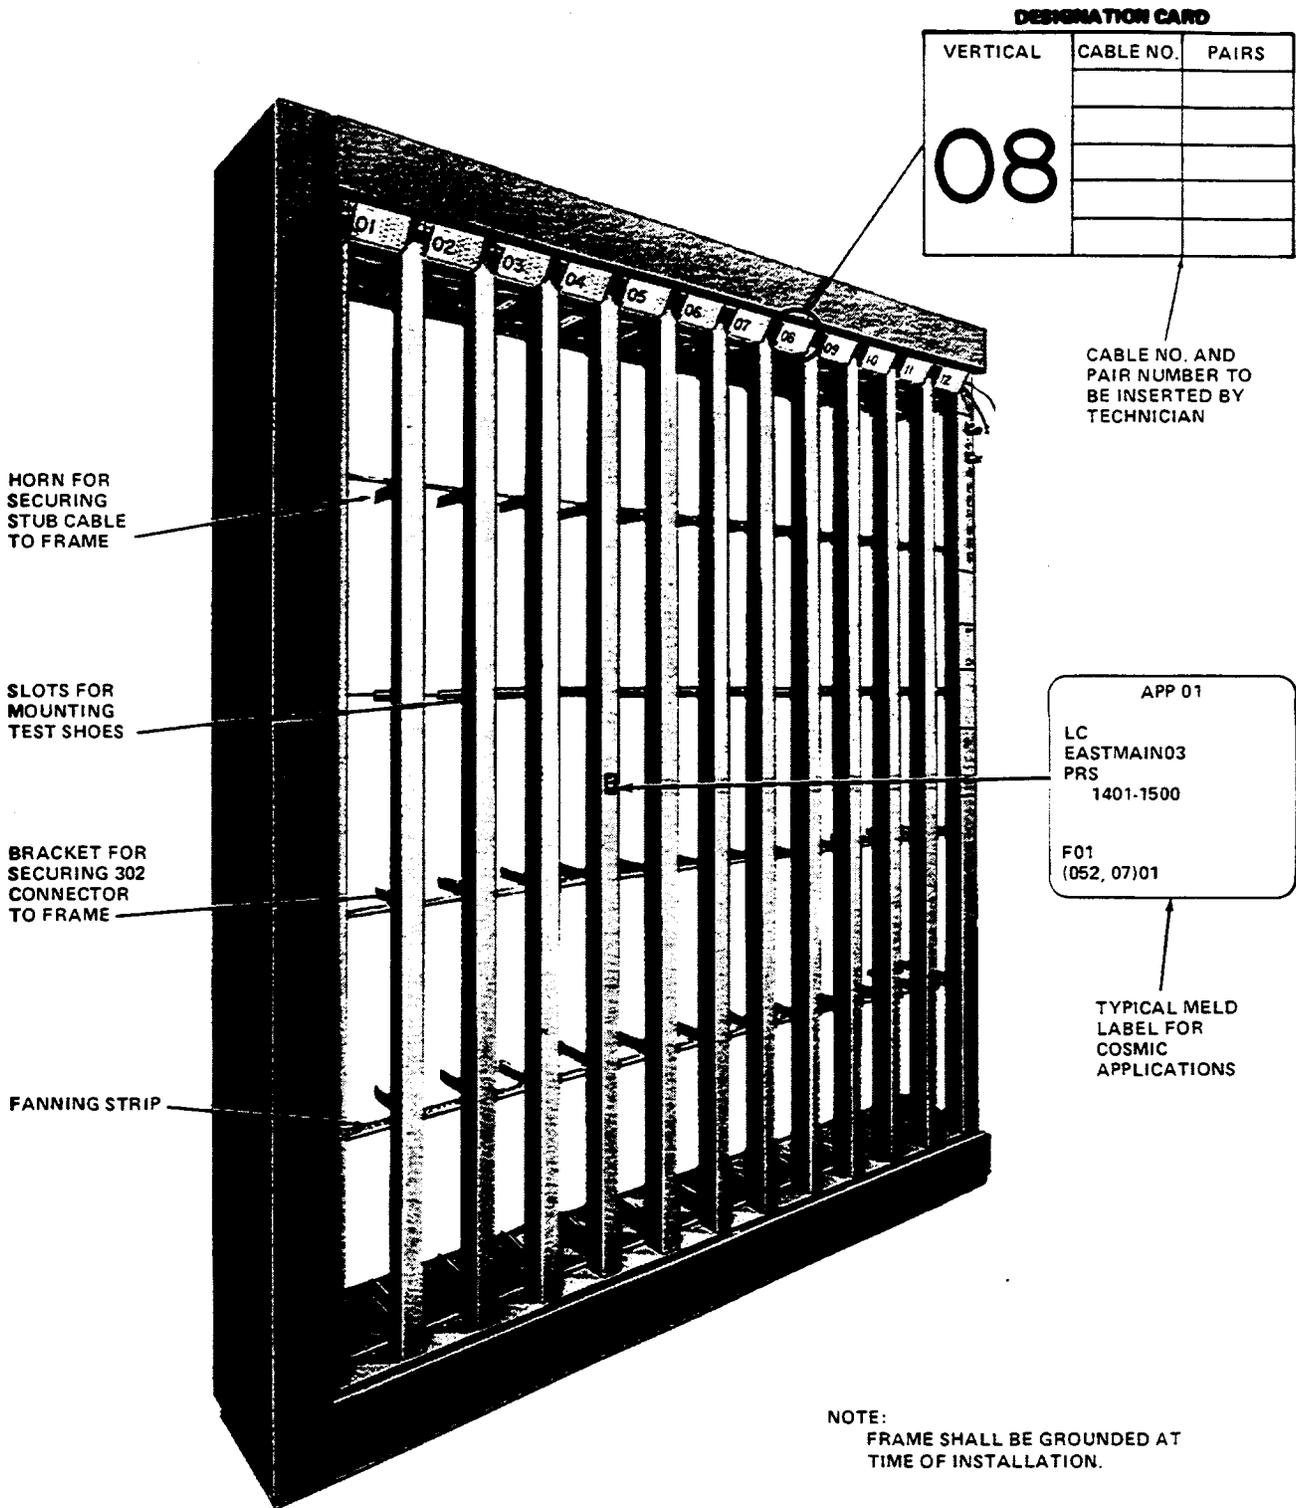

Figure 7—Modular Type Protector Frame
**3.18** When the MELD/PACE label is used, place it on the protector frame to the left of the connector at about the middle of the connector (Figure 7).
**3.21** Each modular type protector frame (Figure 7) is equipped with protector frame designation cards for identifying cable number and pair count. The craftsperson will insert the cable number and pair count on the designation card located at the top of the frame adjacent to the vertical number.